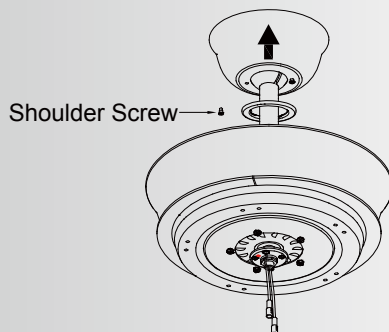

Fig. 16
Step 2. Assemble canopy by rotating key slot in canopy over shoulder screw in mounting bracket. Tighten shoulder screw. Fully assemble and tighten second shoulder screw that was previously removed. (Fig. 16)